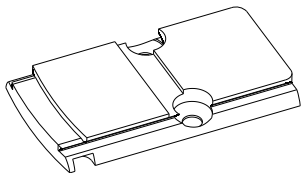

Fig 5-2
2. (Fig5-2) Use the two included 6-32 T10 flat head screws to attach the mounting plate to an industry standard mounting interface.